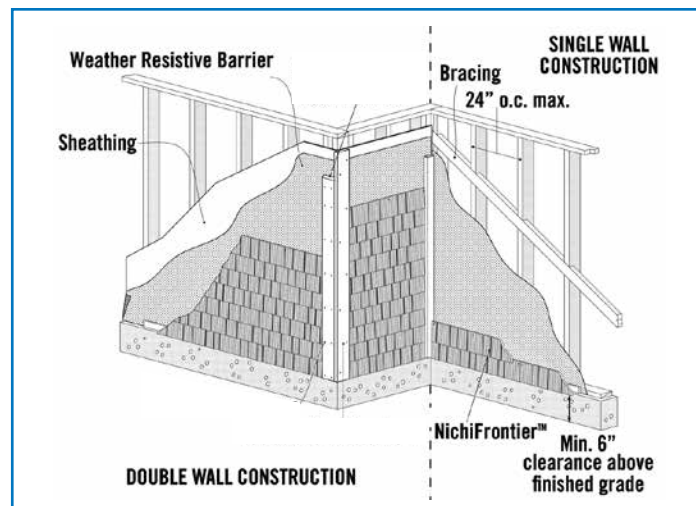

Fig. 9.1
- When installing NichiFrontier, it is recommended that an APA rated 7/16" OSB or plywood sheathing be used. Boards may be installed over non-structural sheathing such as foam, fiber builder board, and gypsum type panels. Non-structural sheathing thickness must not exceed 1". Due to the compressive nature of some non-structural sheathing, care must be taken not to overdrive the fastener and compress the sheathing which may result in distortion or waviness. The fastener length must be increased in accordance with the thickness of the non-structural sheathing. (Fig. 9.1)